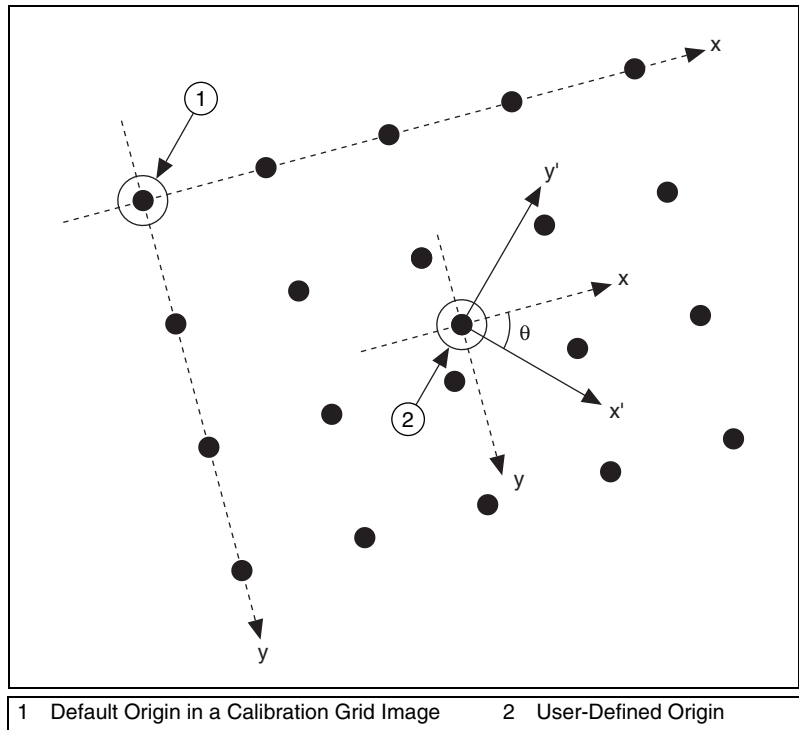

Figure 6-4. Defining a Coordinate System
- Specify the angle as the angle between the x-axis of the new coordinate system (x') and the top row of dots (x), as shown in Figure 6-4. If your imaging system exhibits nonlinear distortion, you cannot visualize the angle as you can in Figure 6-4 because the dots do not appear in straight lines.